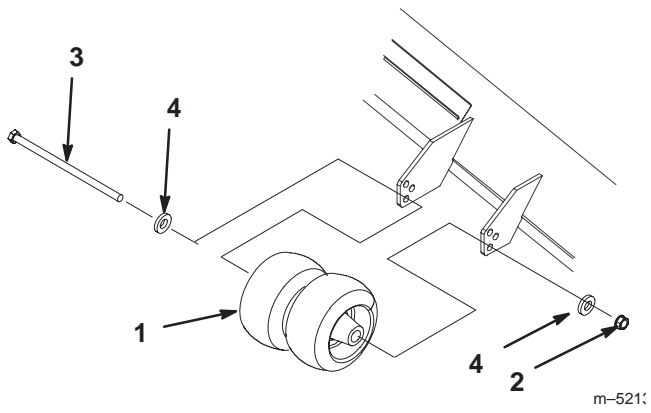

Figure 21
1. After adjusting height-of-cut, remove bolt, washers and nut (Fig. 21).
2. Select a hole position so the gage wheels are a minimum of 3/8 in. (9.5 mm) off the ground for the height-of-cut to be used (Fig. 21).
3. Reinstall the bolt, washers and nut (Fig. 21).